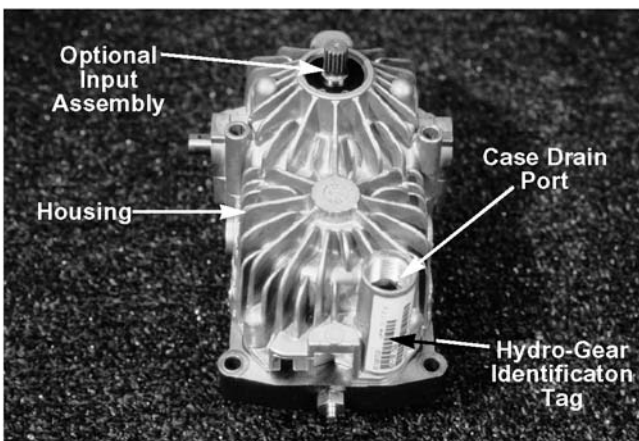

Figure 5-15.
- c. Serial number. See Figure 5-15.